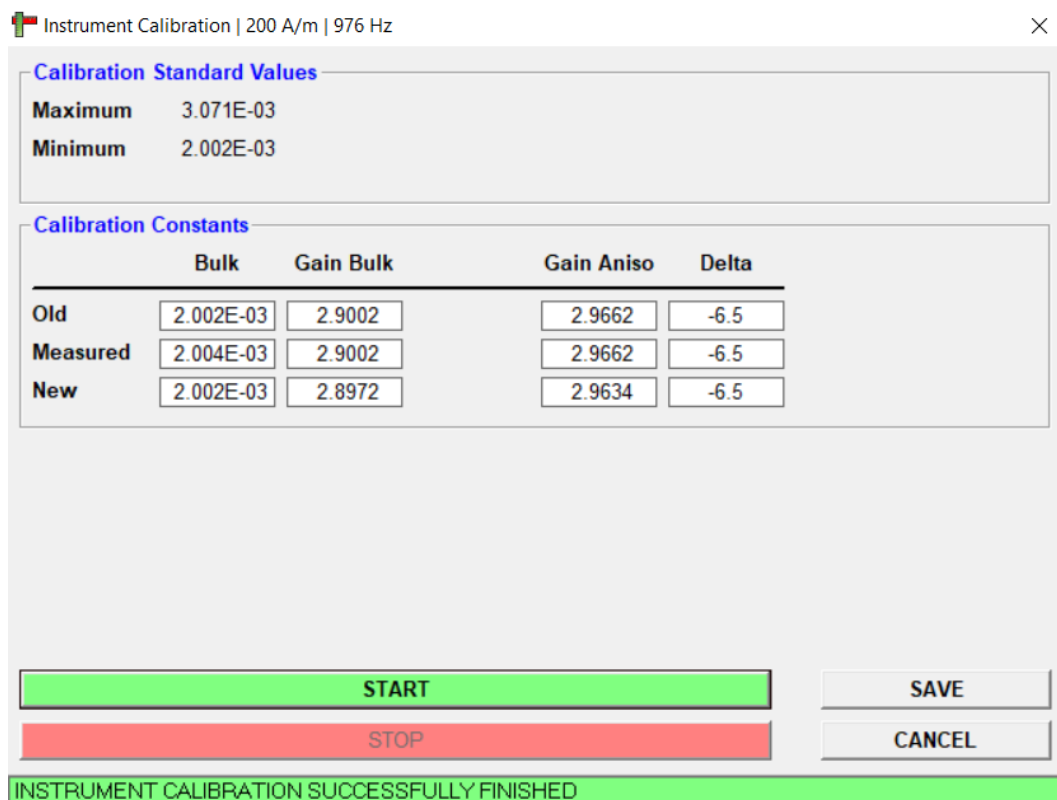

Figure 17: Calibration Window after a successful calibration
4. If calibration finishes successfully the status bar at the bottom of the window will be green (*Figure 17*). Select **SAVE**. If the calibration is not good, the status bar will be red and the user should repeat the procedure. If the 3D rotator is used, correct values of the calibration constants must fall within the limits of the table in *Figure 18*.